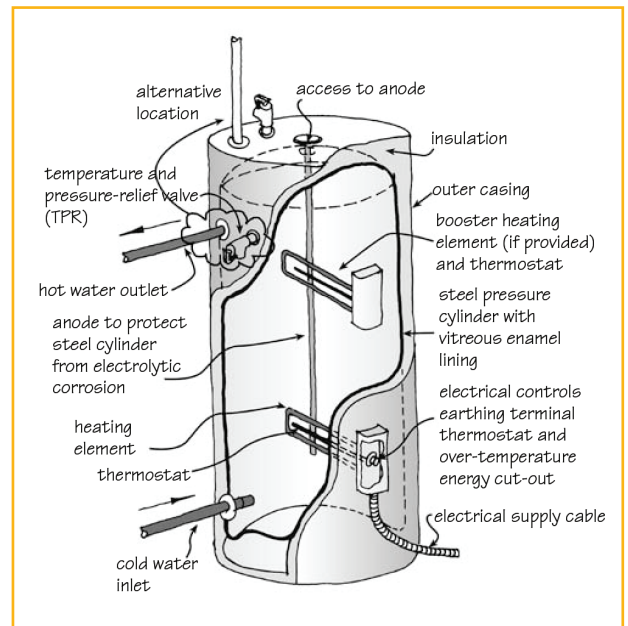

Figure 2. Schematic of an electric mains-pressure hot water storage heater. The upper booster heating element is usually not present.
**4.2.1** Electric water heaters (Figure 2) are generally installed internally, although external models are available.